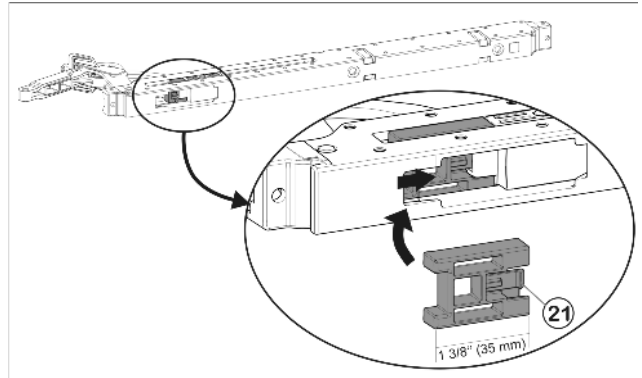

Fig. 55
- Fit opening limiter (90°) *Fig. 55 (21)* supplied: insert it into the soft stop mechanism from the side and push in until it audibly snaps into place.